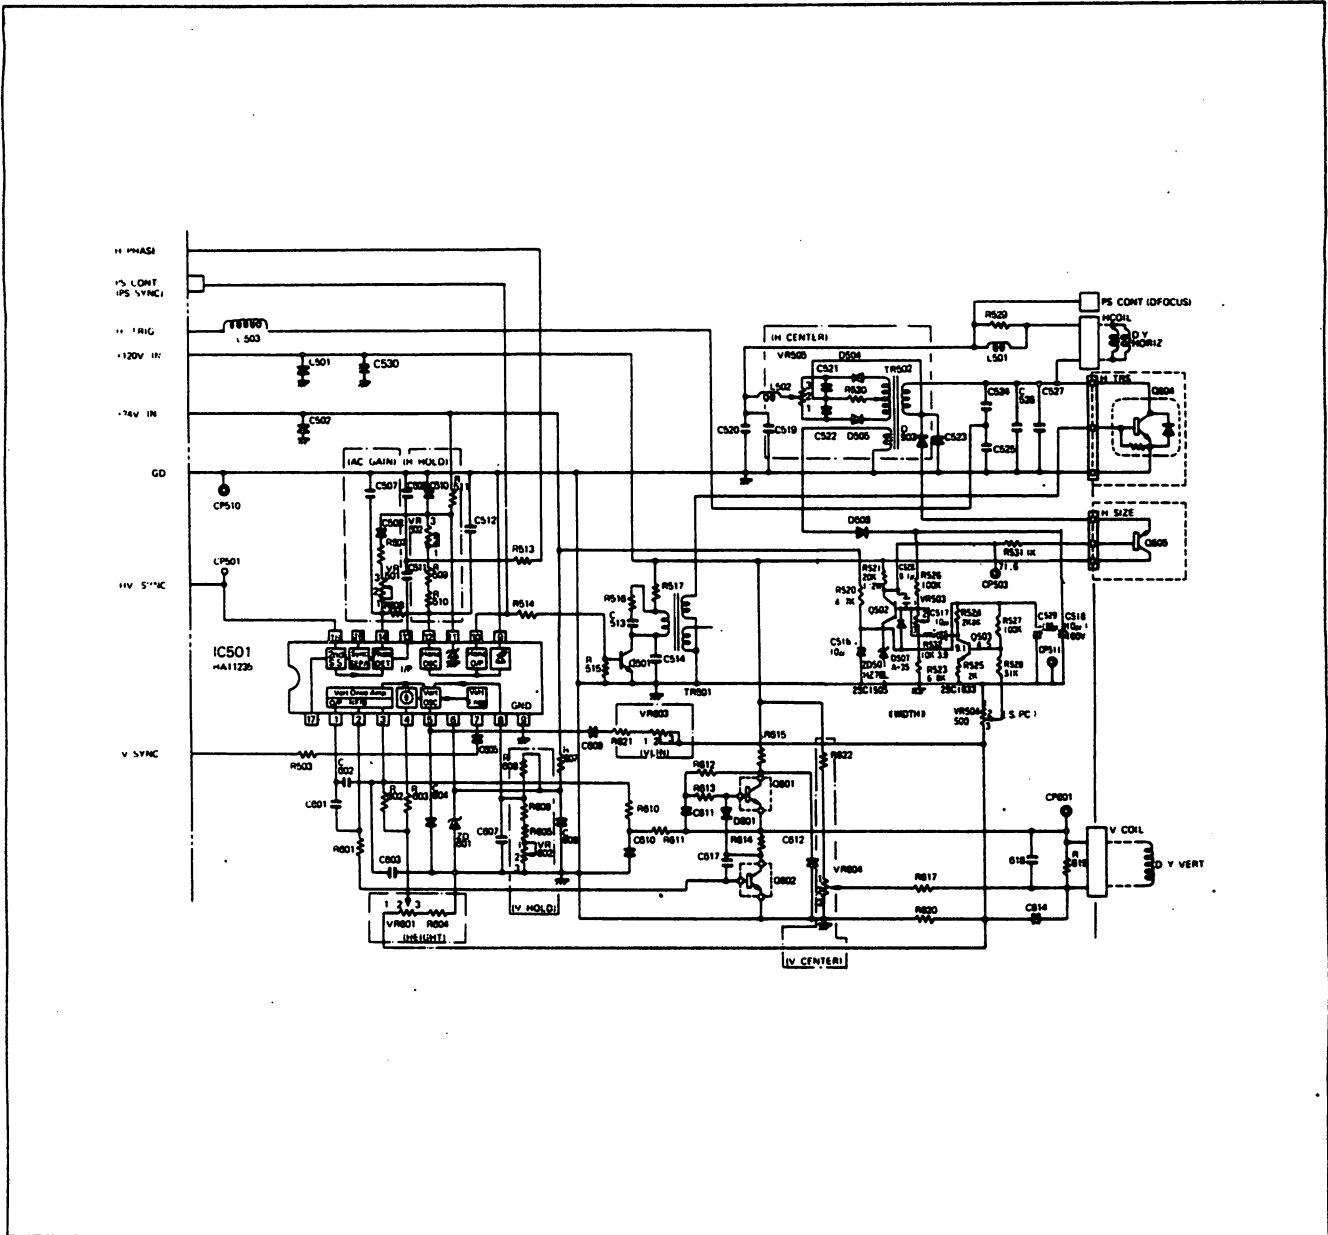

Figure 4-7 Deflection Circuit
4.2.3 Deflection Circuit (Figure 4-7)